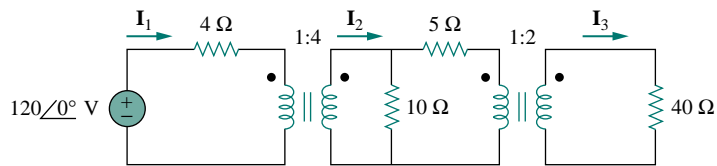

Figure 13.111 For Prob. 13.44.
- 13.44** Refer to the circuit in Fig. 13.111 below.